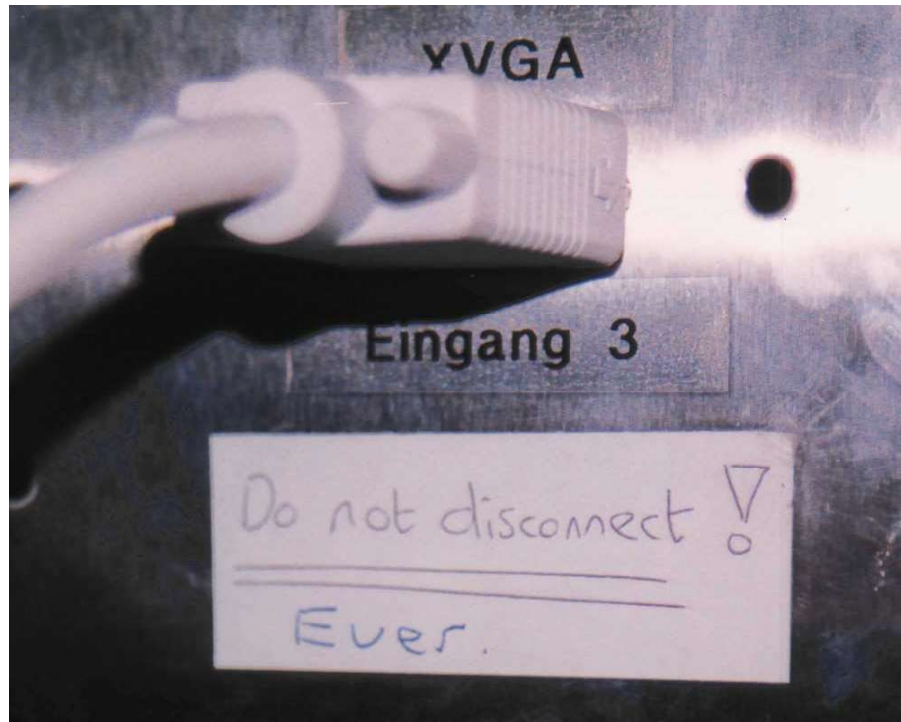

Figure 2.6: I provided this label as a warning to myself and others.
- To remind myself and to warn others, I resorted to the last ditch technique of providing the label shown in Figure 2.6.